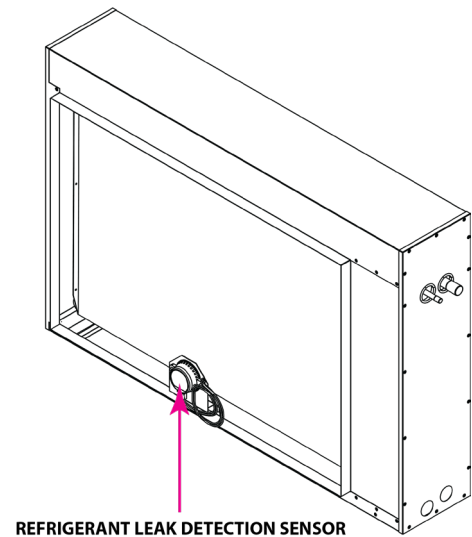

Figure 10: Refrigerant Leak Detection Sensor Location
The refrigerant leak sensor is attached to a bracket in the location shown in Figure 10.
1. Refer to Figure 10 and disconnect the ductwork from the coil on the side of the coil where the refrigerant leak sensor is located (see Figure 10). Push the duct away from the coil enough to allow a refrigerant hose to come near the refrigerant leak sensor.